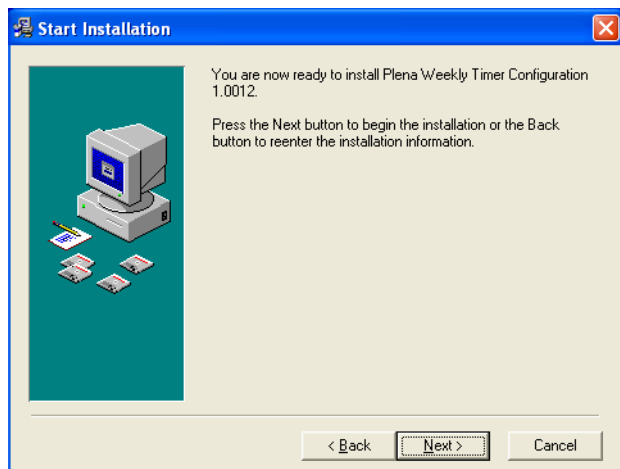

figure 8.4: Start installation
- 4 Select the Program Manager Group, and then click [Next]. A window similar to the one in figure 8.4 will appear.